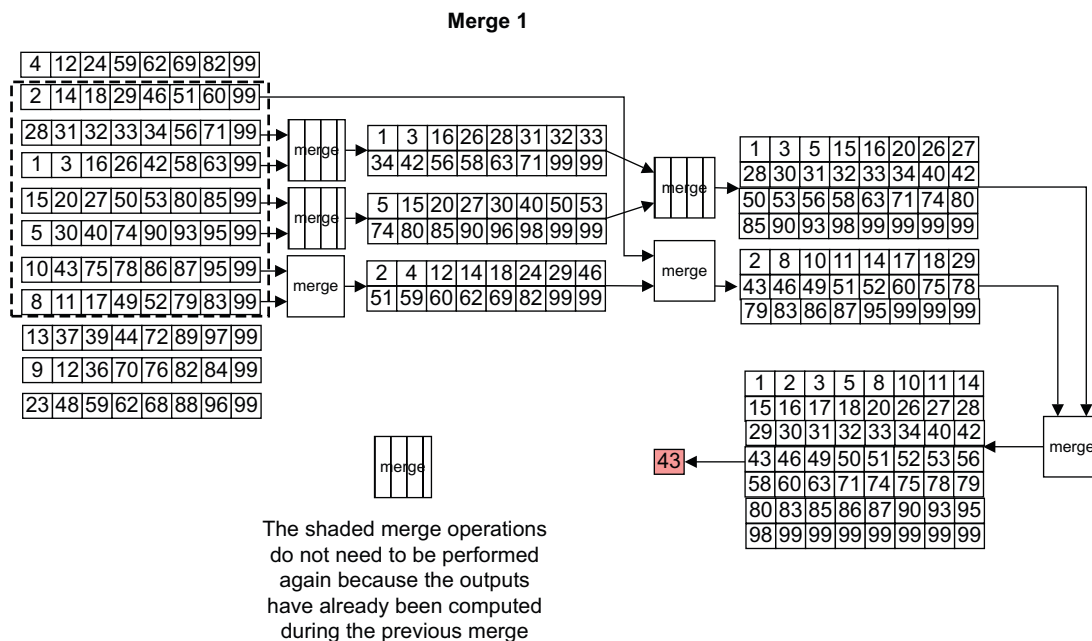
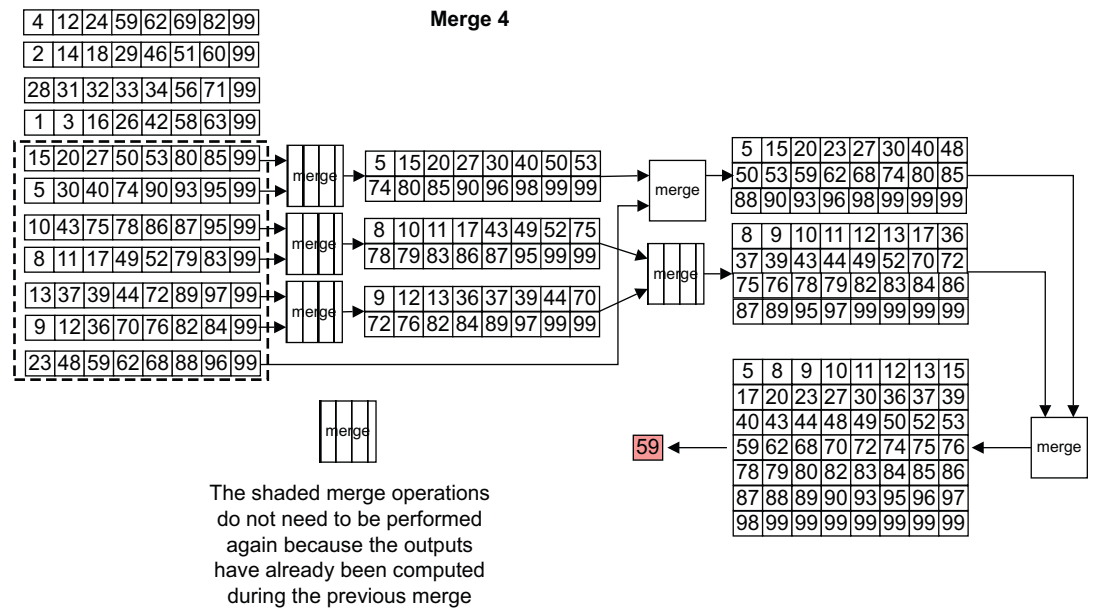
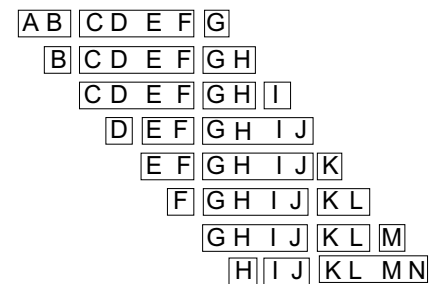

Figure 8-9 Merging 7 vectors for first median pixel
Figure 8-12 Merging 7 vectors for fourth median pixel
Figure 8-13 Sliding filter
The merge process produces intermediate sorted lists or merged vectors. Some of these intermediate merged vectors are useful for finding subsequent median values. Figure 8-9 to Figure 8-12 on page 8-16 show that there is no need to recompute certain merge operations.
- a window of one vector, containing 8 elements, for example [G] in Figure 8-13 on page 8-17.
- a window of two merged vectors, containing the 16 merged elements, for example [AB] in Figure 8-13 on page 8-17
- a window of four merged vectors, containing the 32 merged elements, for example [CDEF] in Figure 8-13 on page 8-17.
Figure 8-13 on page 8-17 demonstrates this, where the vectors are represented by the letters A to N. The Merge 4 in Figure 8-12 corresponds to first sliding window, [AB][CDEF][G], in Figure 8-13 on page 8-17. As the sliding window moves from left to right, it overlaps a new vector, for example [G] on the right and loses a vector on the left, for example [A]. However, the merged values of [CDEF] are still used for calculating the next median value. Hence it makes sense to store and reuse the merged values in [CDEF].
In the sliding window example in Figure 8-13, it is possible to save and reuse:
As the sliding window moves from left to right, it calculates a new median value. After every 4 median values, the pattern of the windows repeats. This is the cycle of 4. For example in Figure 8-13, the window pattern for the first and fifth median values is double vector, quad vector, single vector.